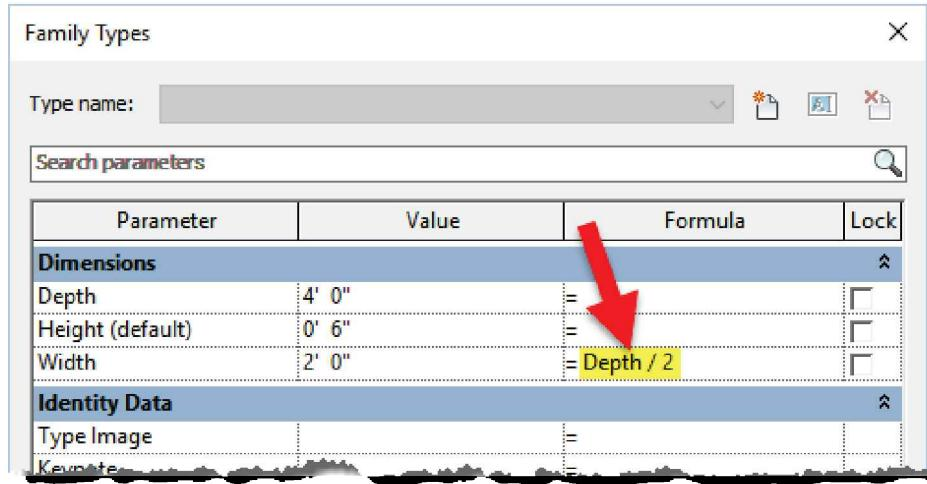

FIGURE 17-4.3 Adding formula to control the width
3. For the *Width* parameter, in the *Formula* column, enter the following: **Depth/2** (see Figure 17-4.3).
Notice the Width Value is now half of the Depth, i.e., 2'-0" (see Figure 17-4.3).